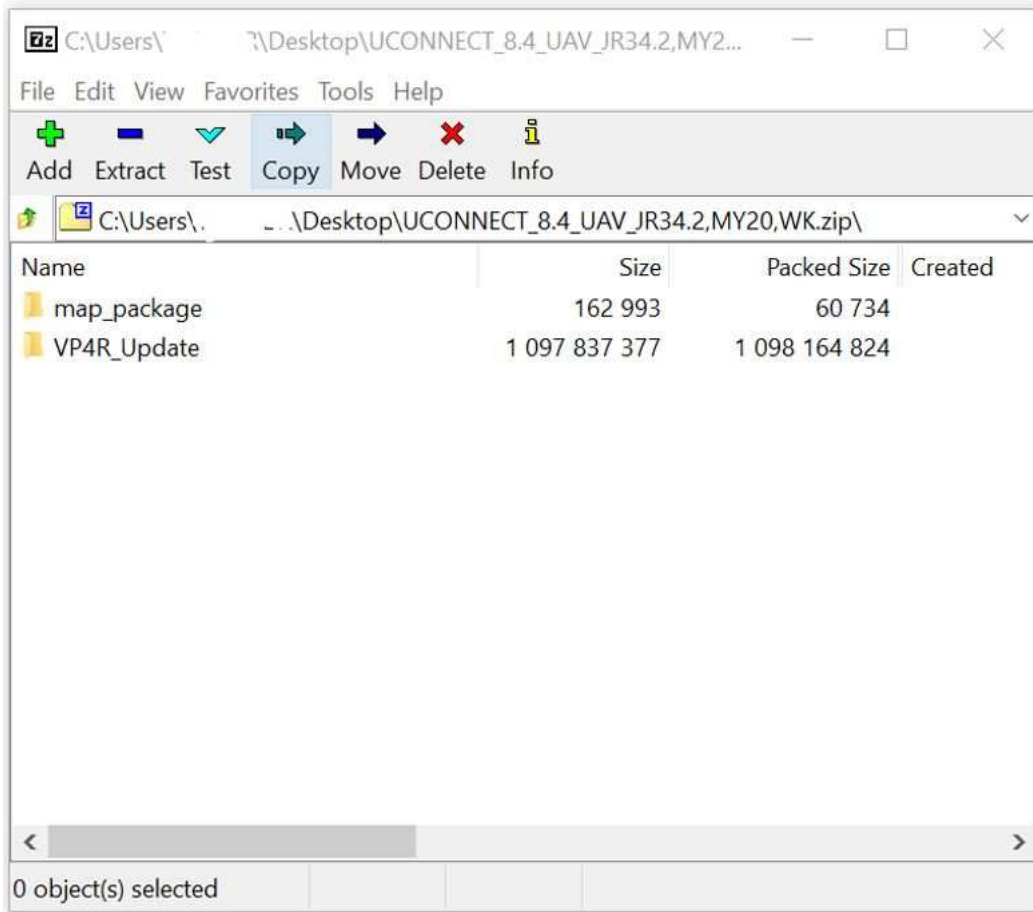

Fig. 6
9. Verify the content on the flash drive matches (Fig. 6) .